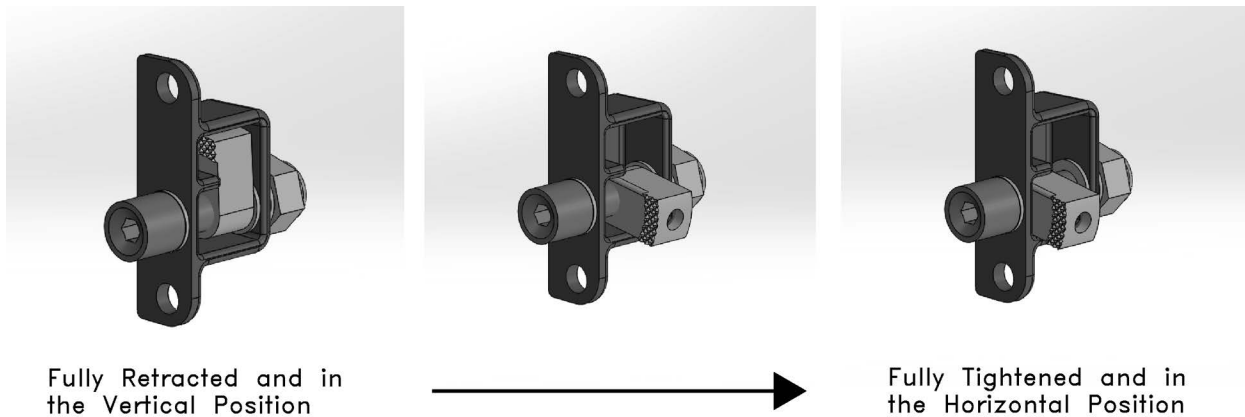

Figure 12-2. Pawl Latch
1. Per Figure 12-2, make sure the pawl latch fasteners are fully retracted and in the vertical position.
3. Using a 3/32" hex drive tool turn each of the two pawl latches clockwise until tightened to 20 +/-2 in-lbs. When tightened, the pawl latches are in the horizontal position (see Figure 12-2).
4. Using a 3/32" hex drive tool turn each of the two pawl latches clockwise until tightened to 20 +/-2 in-lbs. When tightened, the pawl latches are in the horizontal position (see Figure 12-2).